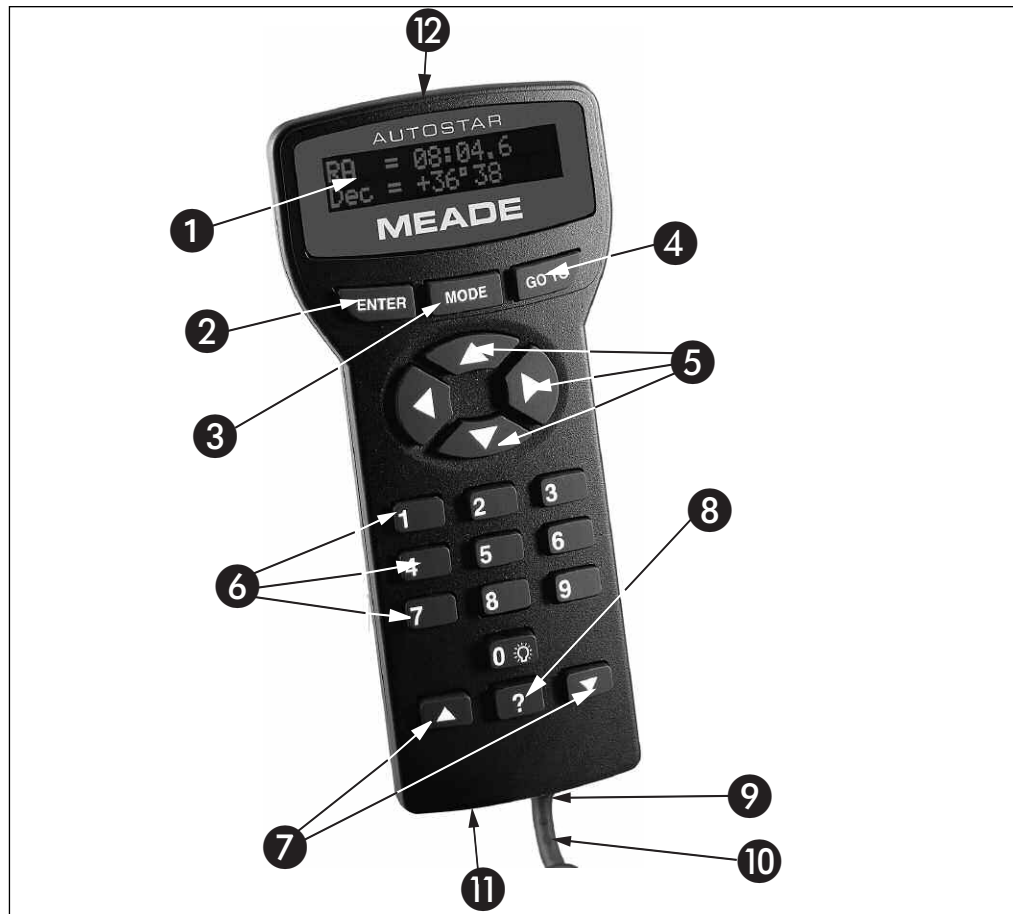

Fig. 2: The LX90 AutoStar Handbox.
- A. Handbox (HBX) Port:** Plug the AutoStar coil cord (10, Fig. 2) into this port.
D. Auxiliary (AUX) Port (2): Provides connection for the LNT module, and also current and future Meade accessories, such as the Meade Accessory Port Module. See "OPTIONAL ACCESSORIES," page 41.
If MODE is pressed and held for two seconds or more, information about the telescope's status displays. When the status displays, press one of the Scroll keys (7, Fig. 2) to display the following information:
To set the blink rate of SmartFinder's red dot (circled numbers refer to Fig. 2):
- 9 Coil Cord Port:** Plug one end of the AutoStar coil cord into this port (**11, Fig. 2**) located at the bottom of the AutoStar handbox.